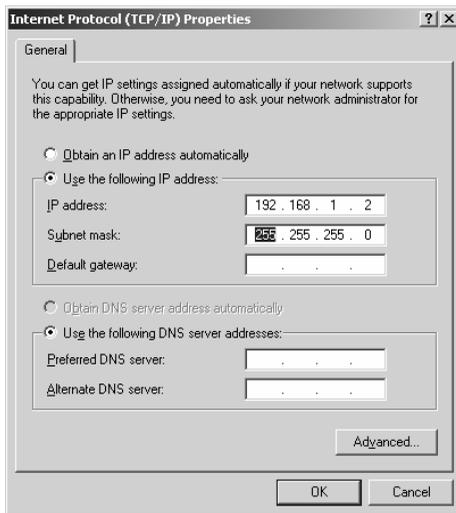

Figure 13: Internet Protocol (TCP/IP) Properties Window
6. Select Use the following IP address, and fill in the details as shown in Figure 13.